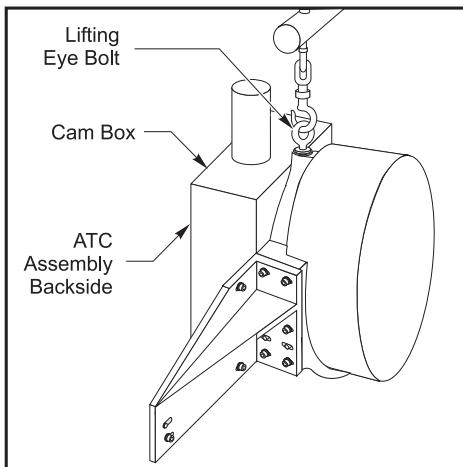

Figure 3-65 ATC Assembly Lifting Position
6. Lower the ATC assembly with the back side of the cam box towards the ground. See Figure 3-65.
6. At the top of the ATC assembly, manually rotate the cam box pulley clockwise until the output shaft is lowered and just before it begins to rotate 180°. See Figure 3-65.
1. Rotate carousel by turning the carousel cam pulley by hand. Refer to Figure 3-65.